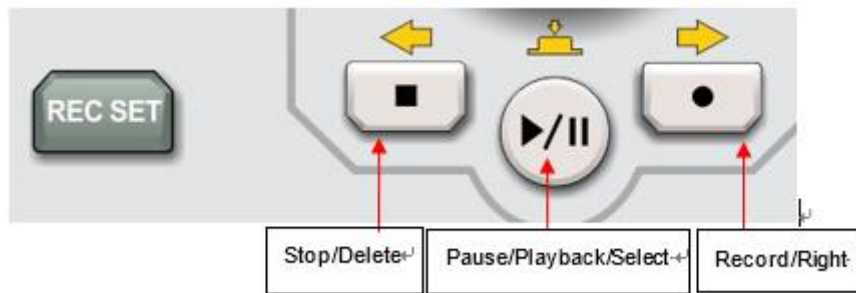

Figure 17-2
- (3) The ② on the above figure is waveform reference list: Display the parameter of waveform in the list format. If an item in the list is in white, then it can use menu operating soft key, numeric keyboard, direction key or Multipurpose knob to adjust the parameter. If the base color of the current character is the color of the current channel (It is white when the system is in setting), which represents the character is in the editing state and can be set with the direction key (as shown in Figure 17-2) or use the numeric keypad or Multipurpose knob to set the parameter.